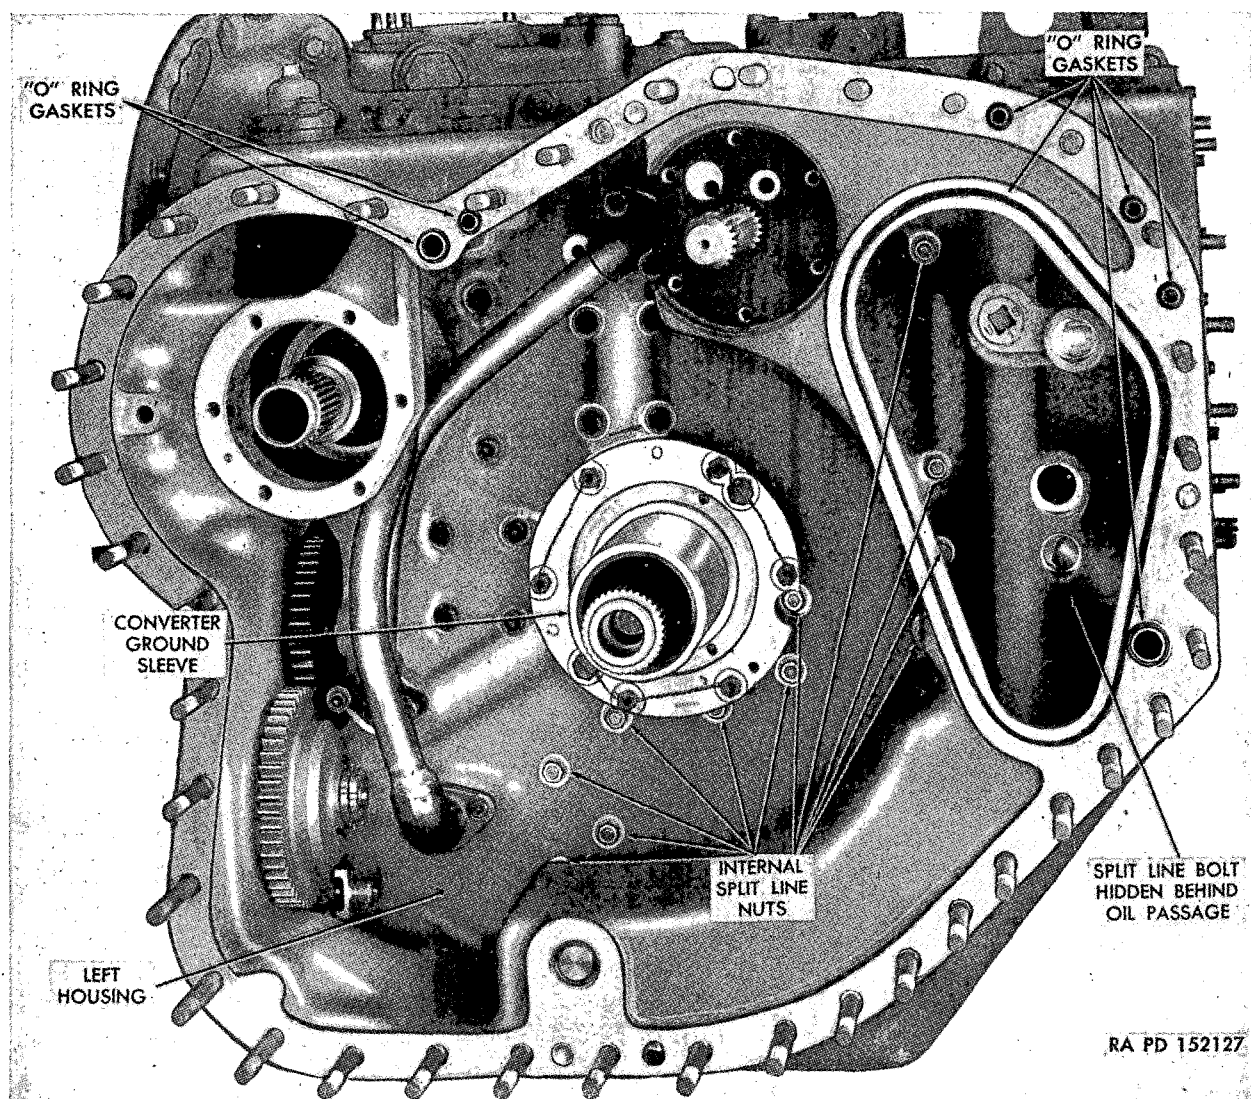

Figure 388. Converter cavity and reservoir well in left housing.
- (1) Install eleven $\frac{3}{8}$ -inch nuts and washers in the converter cavity and reservoir well in the left housing. They secure the internal split line (fig. 388).
- (2) Secure the converter ground sleeve bolts with locking wire as shown in figure 388. With the hook-type seal ring in place on the ground sleeve, install the converter seal assembly (fig. 78). Engage the three tangs in the slots on the ground sleeve.